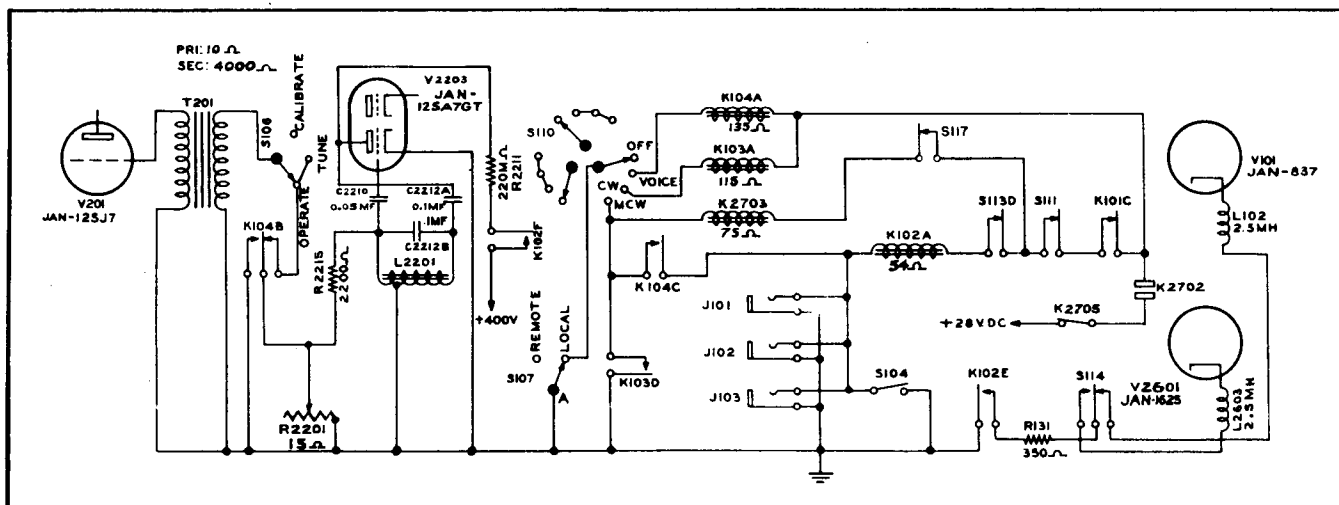

Figure 4-5. Emission Selection and Carrier Control Circuits AN/ART-13A
(1) The "EMISSION" selector switch S110 is a combination transmitter "ON-OFF" switch and "EMISSION" selector switch. Operating "EMISSION" selector switch S110 to the "VOICE," "CW" or "MCW" position will operate the primary contactor K2702 (see fig. 4-5). (Note: Refer to paragraph 3a, this section for detailed explanation of the operation of primary power contactor K2702.) Selecting "VOICE" emission by the operation of "EMISSION" selector switch S110 operates "VOICE" relay K104. "VOICE" relay contacts K104B disconnect the output of the "MCW" oscillator tube, V2203, from the input to the speech amplifier. "VOICE" relay contacts K104C connect the coil of dynamotor input relay K2703 to the emission control circuits of throttle switch jack J101, "MICROPHONE" jack J102, "KEY" jack J103 and the "TEST" switch, S104. Selecting "CW" emission completes the circuit necessary for the operation of "CW" relay K103. "CW" relay contacts K103D complete the circuit necessary for the operation of dynamotor input relay K2703 which, in turn, applies primary power to the dynamotor, D2701. Selecting "MCW" emission operates dynamotor input relay K2703 directly.
(2) MODEL AN/ART-13A (Fig. 4-5)